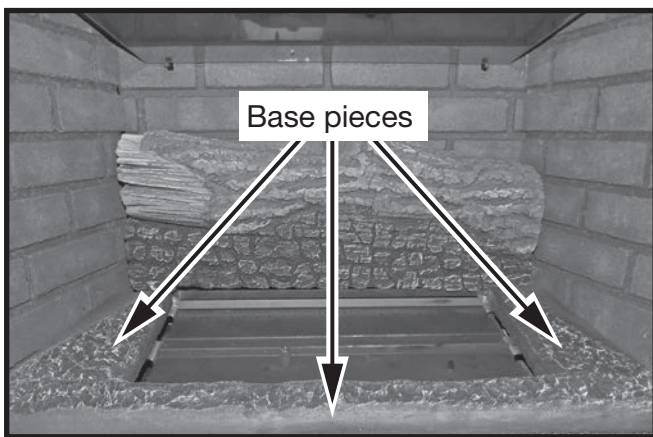

Figure 66: Three base pieces.
4. Install the three base pieces (Figure 53) as shown in Figure 66. The base pieces, in addition to adding an aesthetic dimension to the overall appearance, creates an enclosure for holding the vermiculite / glowing ember material pieces on top of the burners. The two side pieces have one hole each to accept the posts protruding from the bottom of logs two and three.